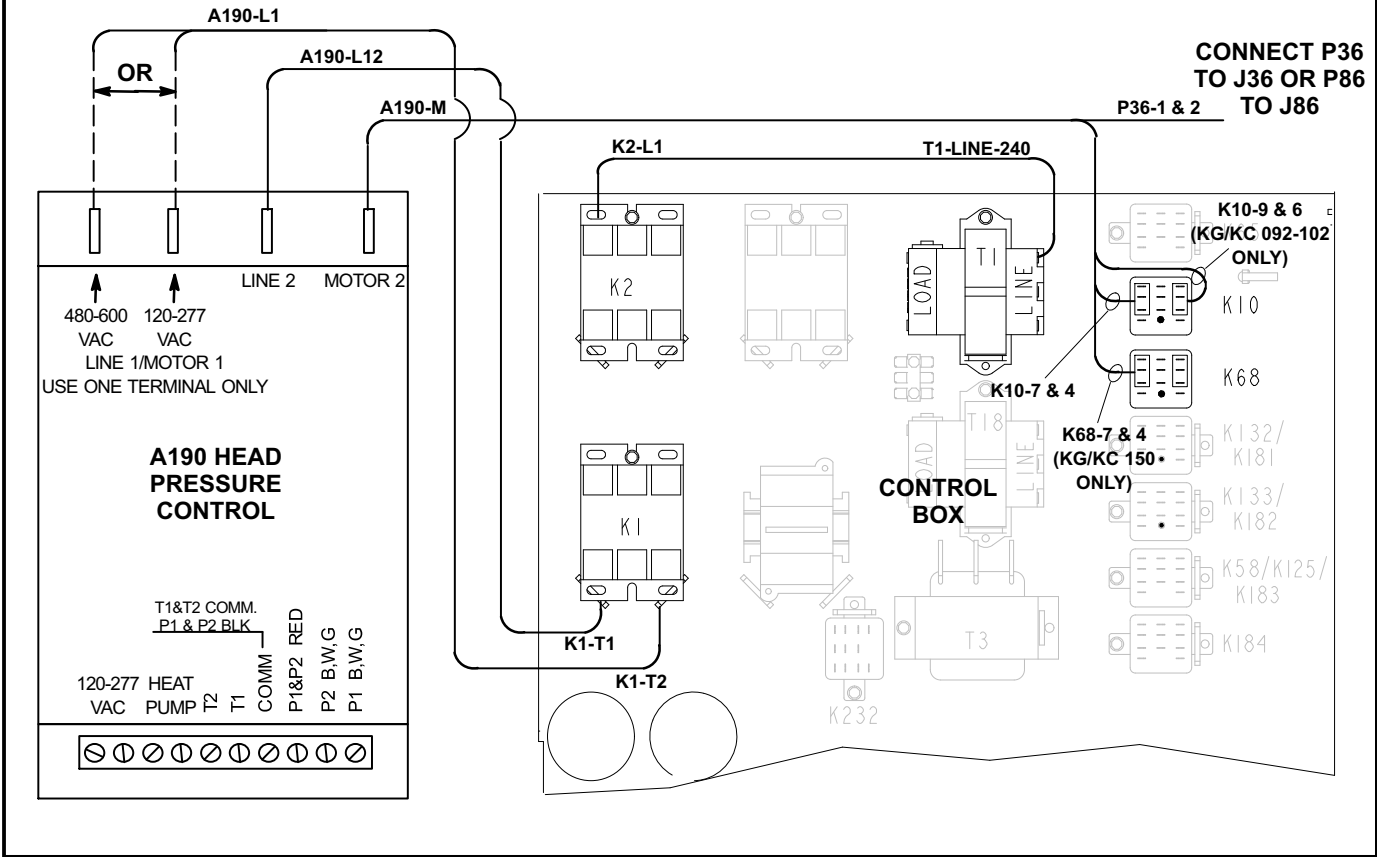

FIGURE 4
- 3- Install the power wiring harness as shown in figure 4.